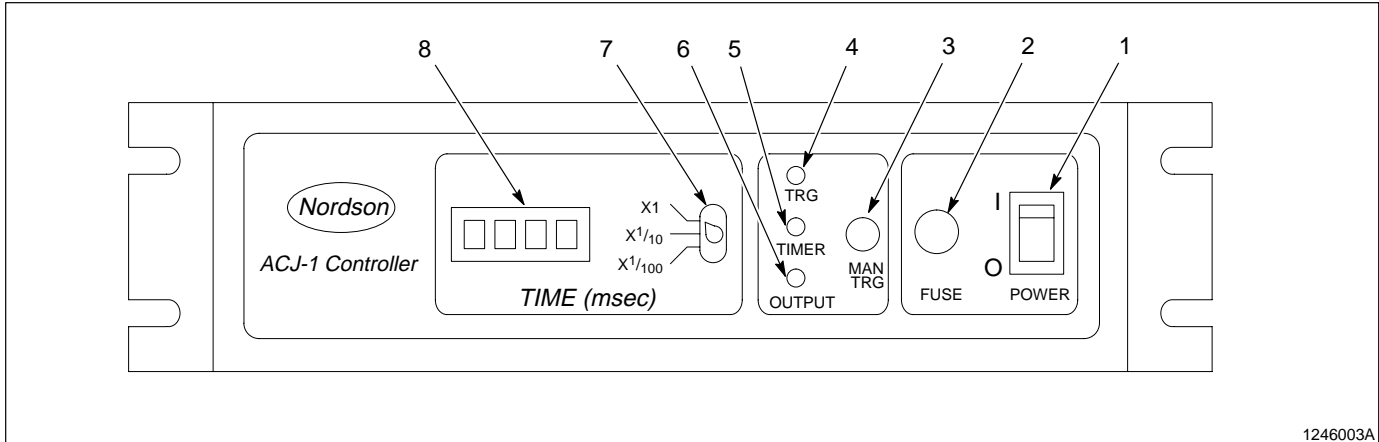

Fig. 3 ACJ-1 Controller
See Figure 3. The controller is typically mounted in the cabinet under the workcell coating area. It operates on 120 Vac and outputs 24 Vdc to energize the applicator solenoid for a selected time period.
4. See Figure 3. Turn on the ACJ-1 controller power switch and set the desired range and valve opening time.